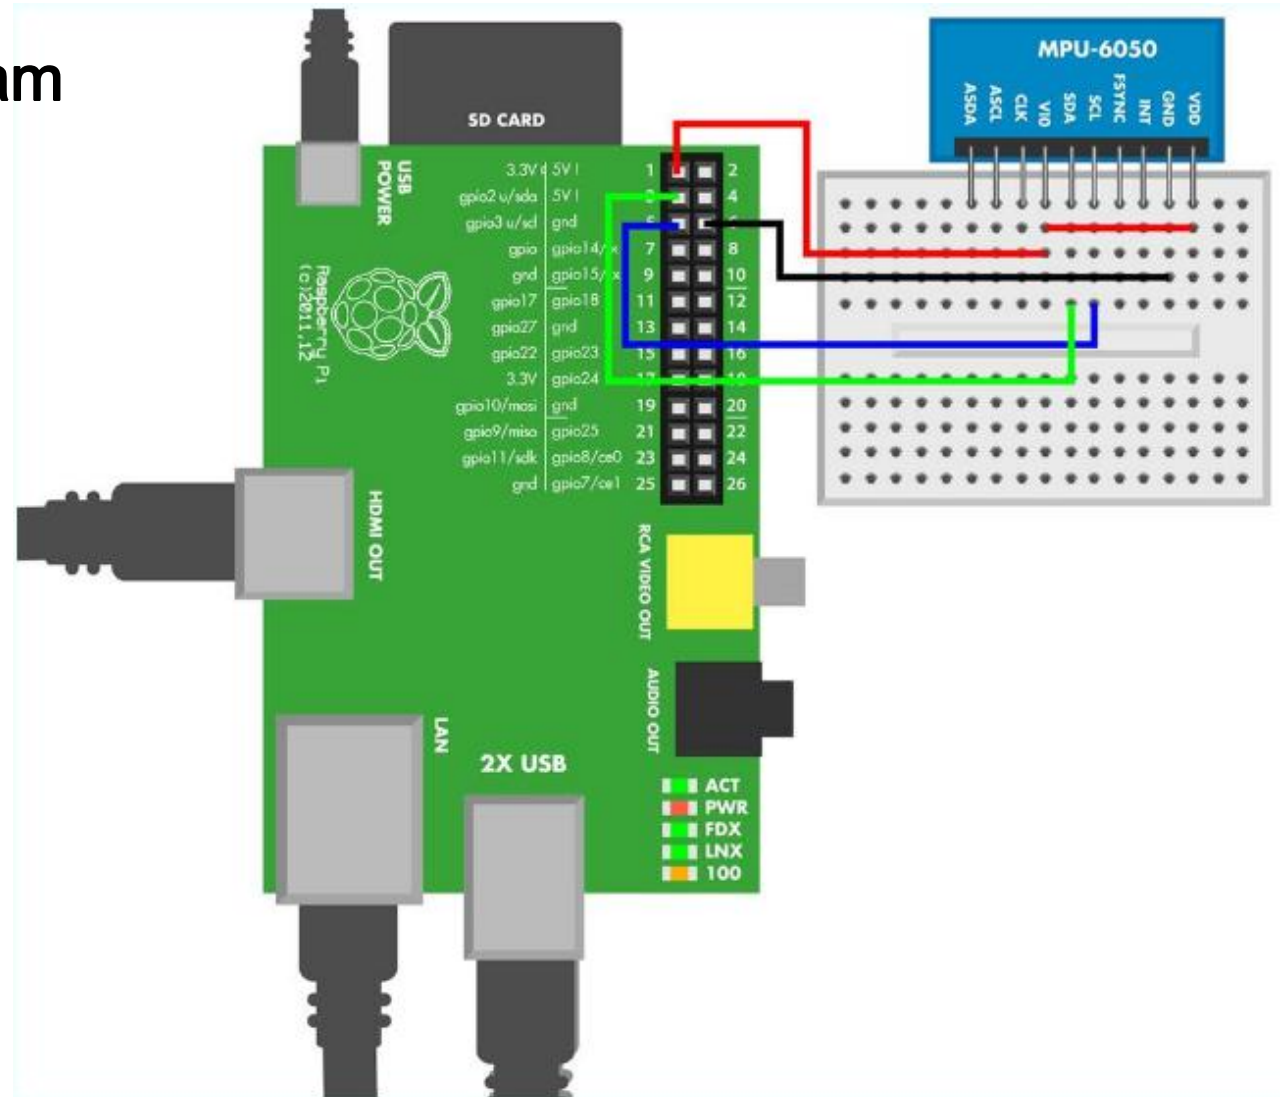

Figure 8-6. MPU 6050 six-axis accelerometer circuit for Raspberry Pi
- Figure 8-6 shows the wiring diagram for Raspberry Pi.